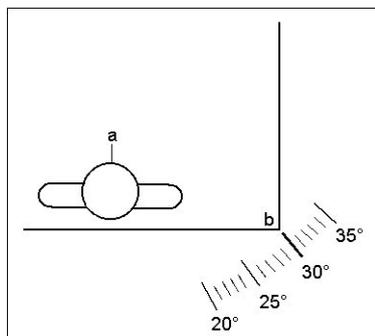

Figure 6: a) Angular adjustment locking screw. b) Corner of stage. Markings indicate the angle of incidence of the exciting light on the sample mounting slide.
The solid sample holder accessory provides both rotational and translational adjustment of the sample. The angle of incidence of the excitation may be varied from 20°–35°. This is the angle between the exciting light and a line perpendicular to the surface of the sample mounting slide (refer to Figures 6 and 7). The angle of incidence is indicated by the position of the corner of the “stage” relative to the graduated markings on the accessory baseplate (Figure 6). The markings are at intervals of one degree. The largest mark indicates an angle of incidence of 30°.
- 3 Lock the stage into position by rotating the thumbscrew until finger-tight. It is recommended that you use the Kinetics application to perform this procedure. Alternatively, you can use the Advanced Reads application. To optimize measurement of a particular sample with the solid sample holder accessory, it is recommended that you initially monitor both the fluorescence intensity and the signal intensity at the excitation wavelength. Rotate the accessory “stage” (Figure 6(b)) to alter the angle of incidence of the exciting light.